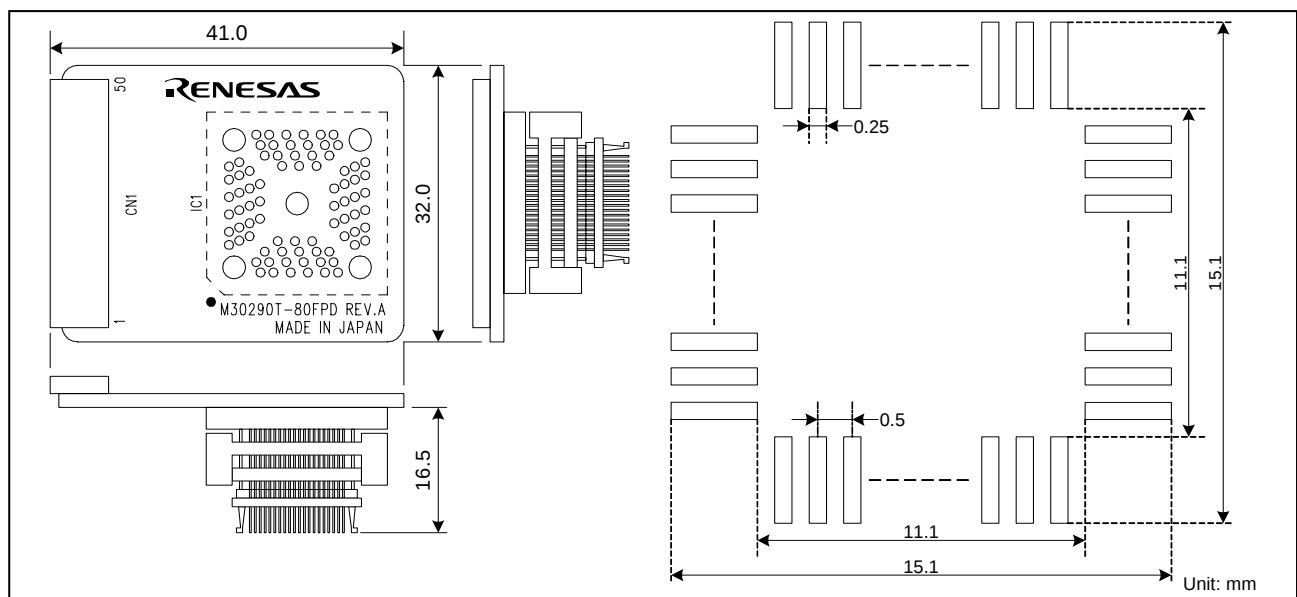

Figure 4 External dimensions and a sample foot pattern of the M30290T-80FPD
6. External Dimensions and a Sample Foot Pattern (See Figure 4)